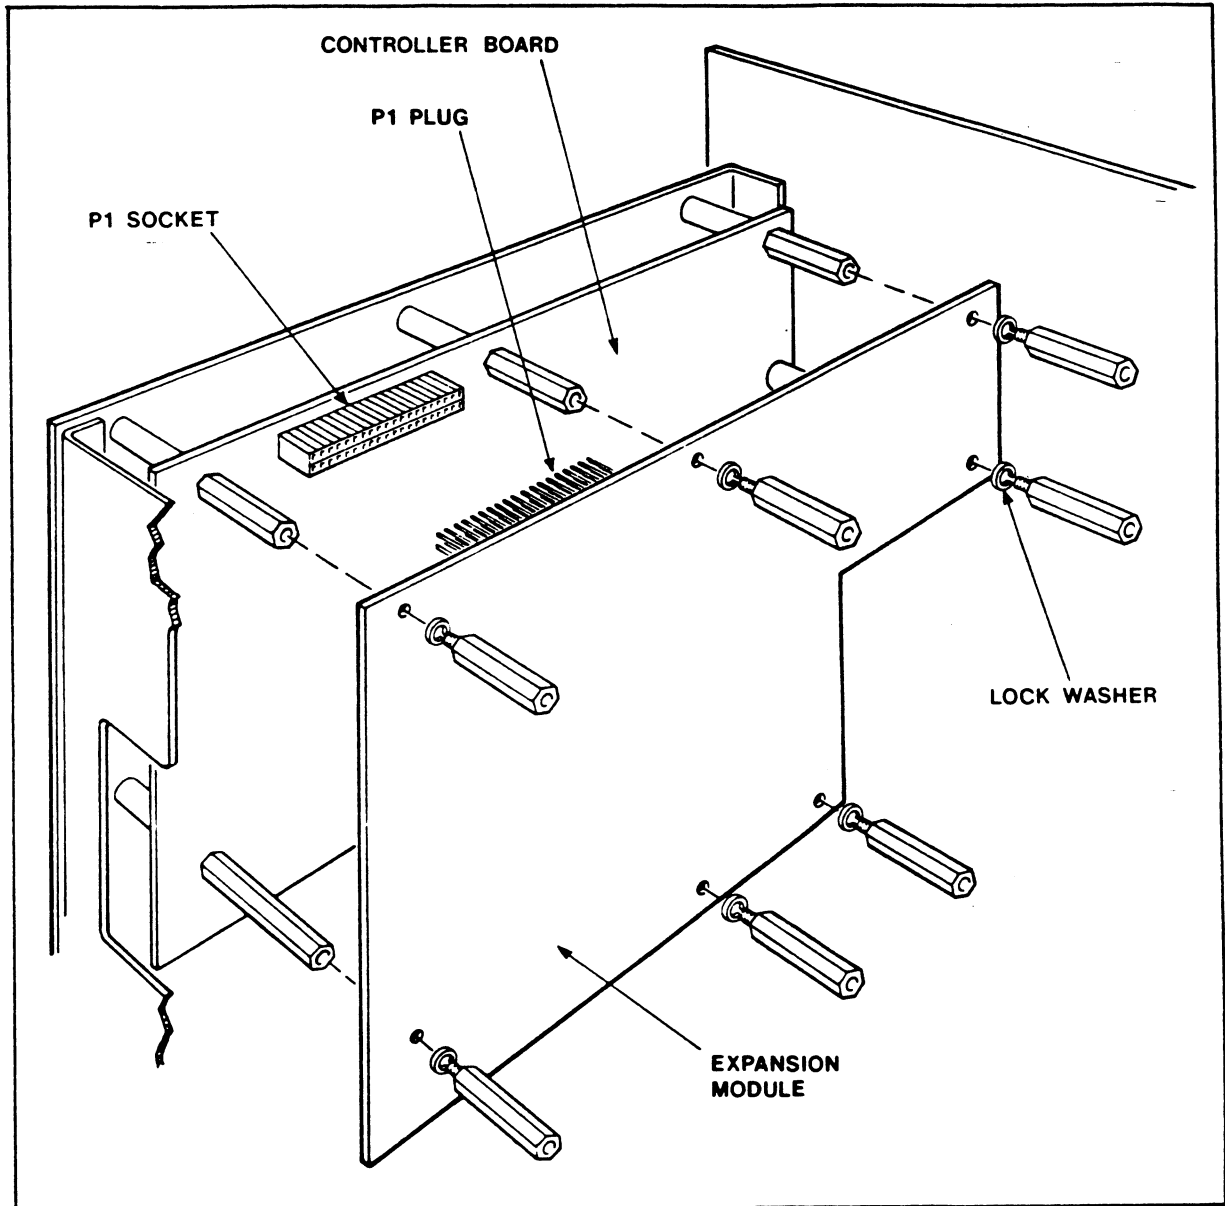

Figure 2-5 Installation of the Expansion Module
6. Install the Expansion Module by lining-up the header plug on the top of the board with the corresponding header socket on the front of the CRT controller board (see Figure 2-5). Apply pressure to the Expansion Module as close to the header plug as possible. When the header pins are firmly engaged, check to see that the board is straight, and in line with the stand-off posts on the controller board.